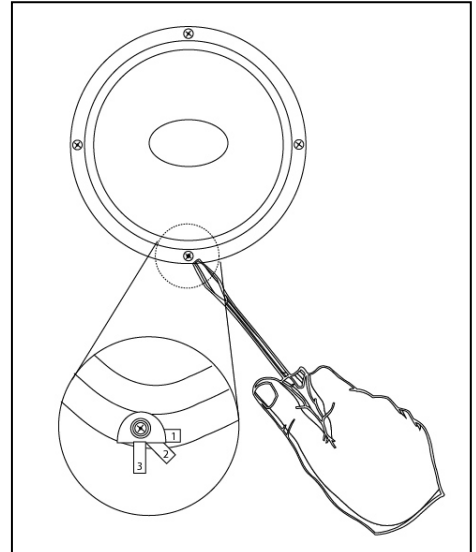

Figure 5
- Use one hand to push the speaker into the cut out (again, pay careful attention **not** to push on the woofer’s cone, this can cause permanent contortion of the voice coil, thus producing mechanical rubbing sound or speaker failure) and the other to turn the screws that engage the installation tabs (see **Figure 5**). Tighten the tabs in a cross or X-pattern until “snug”. Be careful not to over tighten the tabs or damage could result. The speaker should appear flush to the surface.